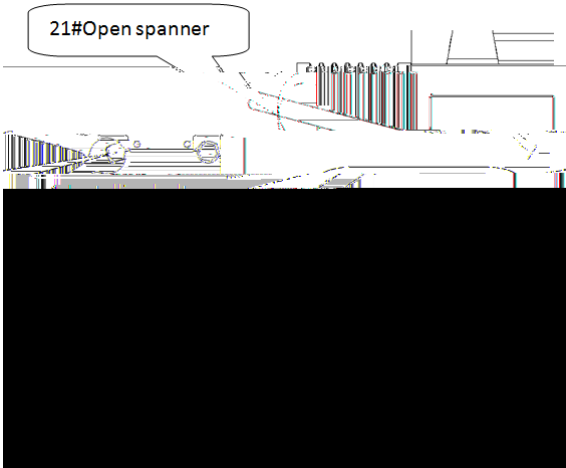

Fig. 1.3
- a) Rotate 4 installing bolts counterclockwise with 21 open spanner until the guide screw can rotate. Refer to fig.1.3.